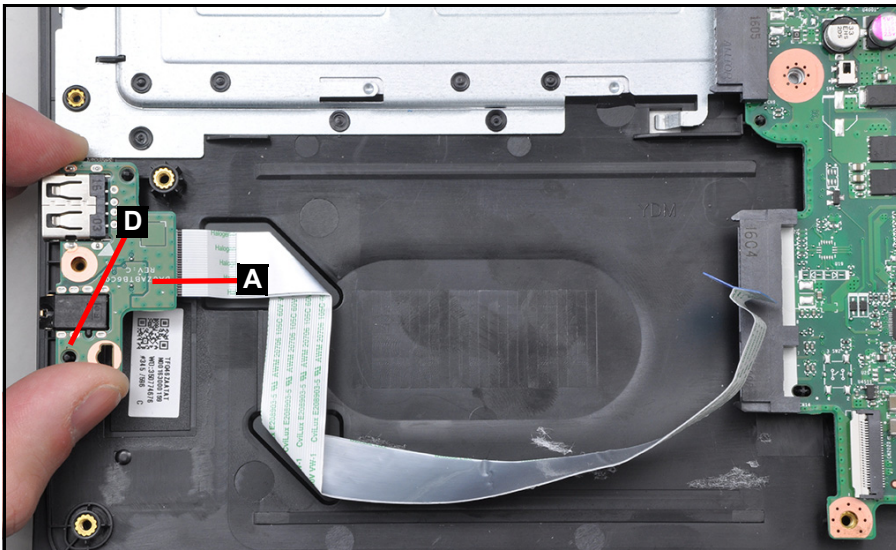

Figure 3-101. Replacing the I/O Board
2. Place the I/O board (A) to its compartment on the top assembly, making sure that the I/O board (A) is latched to the latch (D) (Figure 3-101).